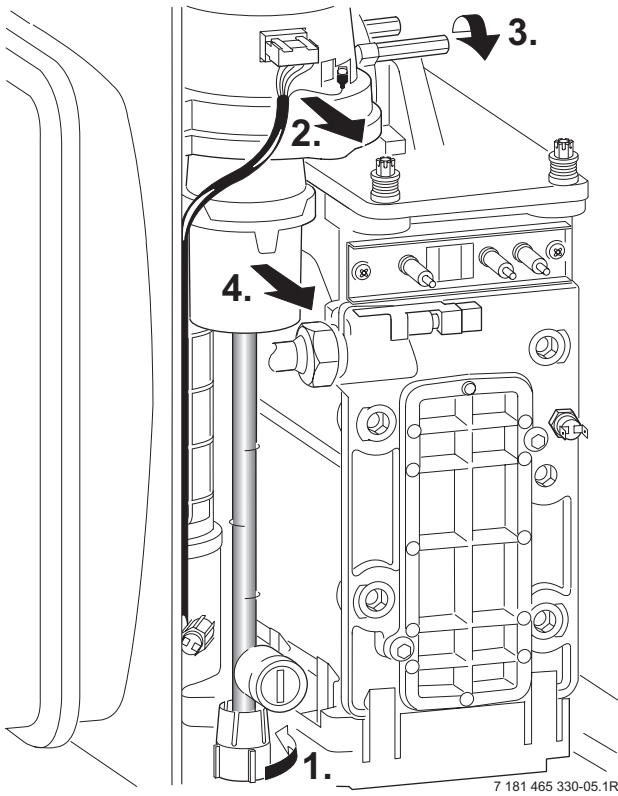

Fig. 59
- Undo lower pipe union on gas pipe (1.). Refer to fig. 59.
- ▶ Undo the union, within the inner casing, securing the valve to the gas/air tube. Refer to fig. 59.